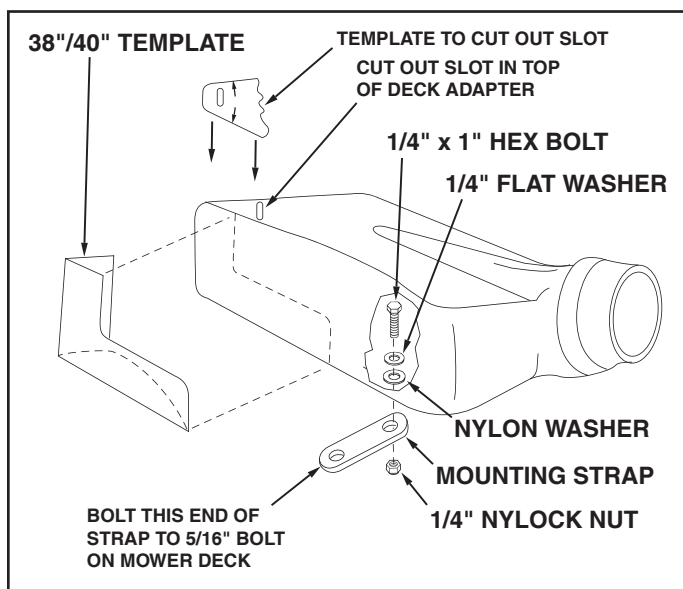

FIGURE 19
- Cut out two templates and place on deck adapter as shown in figure 19. Tape smaller one on top and larger one on the side and bottom. After they are in place, carefully mark around the templates, then cut out adapter to obtain correct opening.
- Bolt end of mounting strap to the 5/16" bolt on the mower deck. The other end of the strap will bolt to a hole in the deck adapter, which must be drilled. Position the adapter on the deck, then drill a 5/16" hole in the bottom of the adapter that will align with the hole in the strap. Fasten the adapter to the strap using one 1/4" x 1" hex bolt, 1/4" flat washer, nylon washer and 1/4" nylock nut. See figure 19.